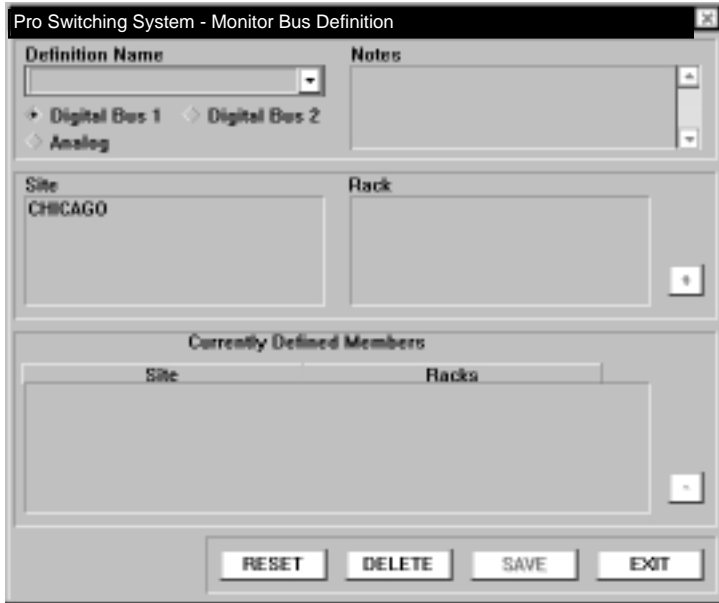

Figure 6-17. Monitor Bus Screen.
1. From the main menu, select Pro Switching System, then Definitions, then Monitor Bus. The Monitor Bus Definition screen appears (see Figure 6-17).